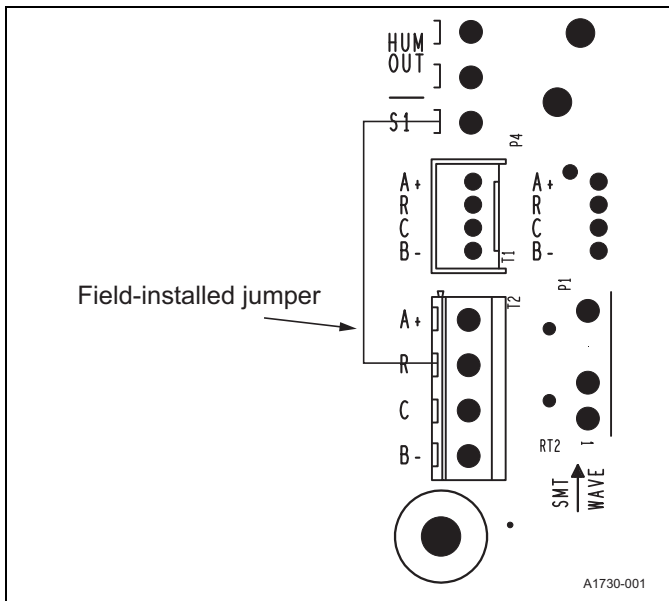

Figure 24: Variable speed board S1 jumper
2. Place a wire jumper from the R terminal on the communicating wiring connection to the S1 input as shown in **Figure 24**.